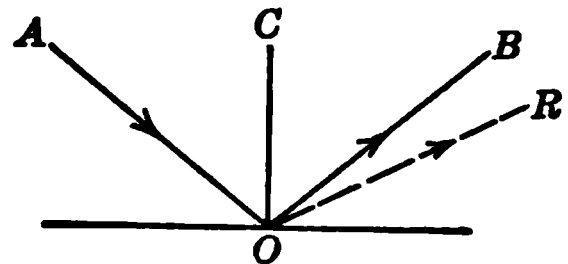

FIG. 78.— Angle of rebound.
88. Rebound. If we throw an elastic object against a hard surface, it rebounds. Fig. 78 shows the angle of rebound and the angle of incidence. The angle AOC is the *angle of incidence*, or the angle that the line along which the object was thrown, makes with the perpendicular to the surface at the point of impact.
The angle BOC is the *angle of reflection*, or the angle that the line of rebound makes with the perpendicular. The two angles are equal, if the object is perfectly elastic. There is one exception to this statement. A ball spinning on its axis as it moves does not rebound as shown in Fig. 78. When an object that is not perfectly elastic, a dead tennis ball, for example, is thrown against a hard surface, the angle of reflection, ROC , is greater than the angle of incidence. Uneven surfaces and balls that have lost some of their elasticity are responsible for many errors in baseball and tennis. A tennis ball that is “cut” to make it rotate is harder to handle.